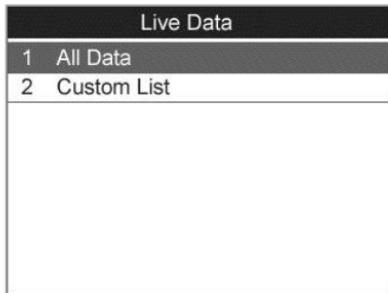

Figure 10.7
- 1) From the Live Data menu (Figure 10.7), use the **UP/DOWN** scroll button to select **All Data** and press the **OK** button.
- 1) To retrieve customized live sensor data, use the **UP/DOWN** scroll button to select **Custom List** from **Live Data** menu (*Figure 10.7*) and press the **OK** button.